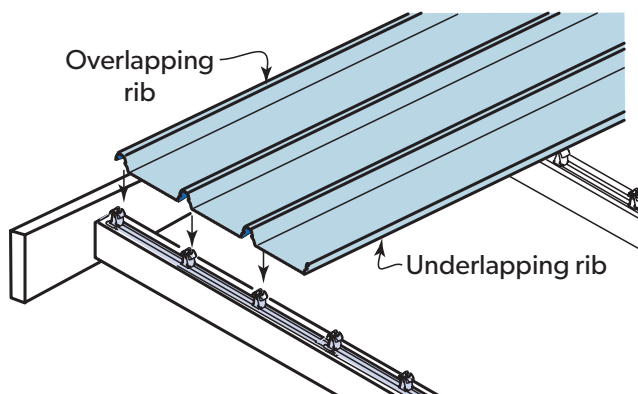

Figure 9.1.4
- 7 Position the first sheet so that it overhangs the desired amount to the gutter. It is important to ensure this first sheet is placed square to adjacent edges. (Figure 9.1.4.)